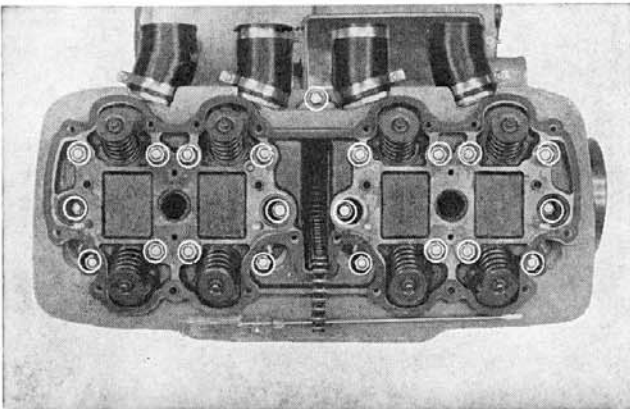

Fig. 3-27 Removing cylinder head mounting nuts and bolts
8. Remove the sixteen cylinder head mounting nuts, the five 6 mm mounting bolts and then separate the cylinder head from the cylinder. Use a special tool (Tool No. 07906-3230000) to loosen the 6 mm mounting bolts on both sides. Loosening sequence of the mounting nuts is performed in the reverse sequence indicated Fig. 3-38 on page 67. (Fig. 3-27)